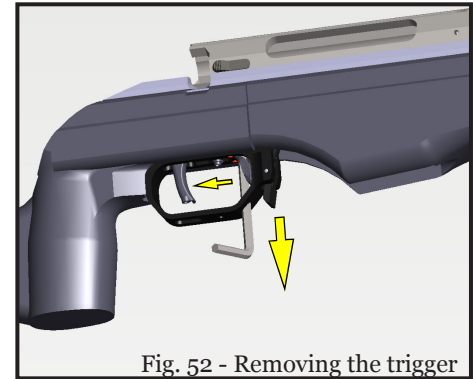

Fig. 52 - Removing the trigger
6. Pull the trigger unit downwards out of the rifle (Fig. 52).